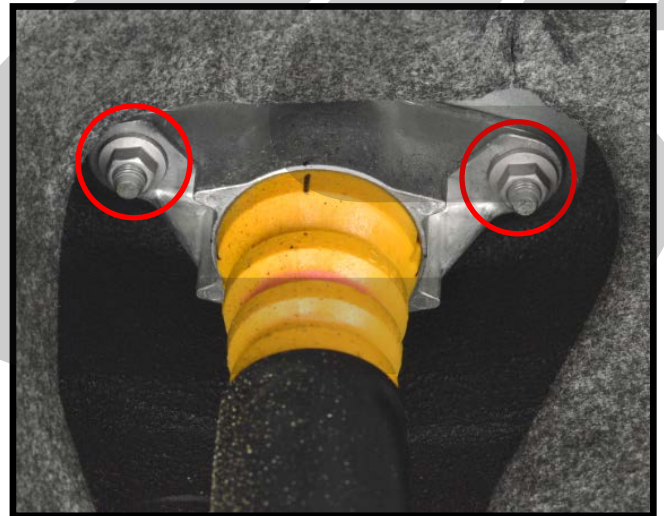

Figure 5d
- e) Remove the two 14mm nuts holding the rear damper top. Red circles in Figure 5d. Remove the damper from the vehicle.